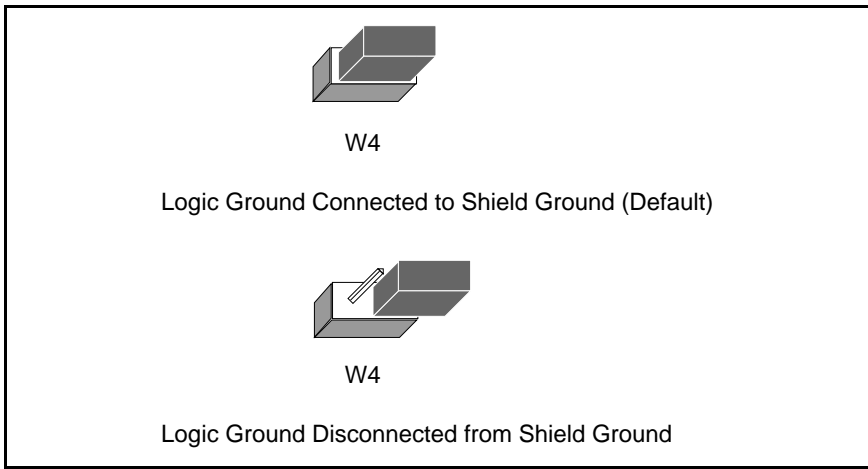

Figure 2-10. Ground Configuration Jumper Settings
- Remove the jumper and place it across only one of the jumper pins, as shown in Figure 2-10.